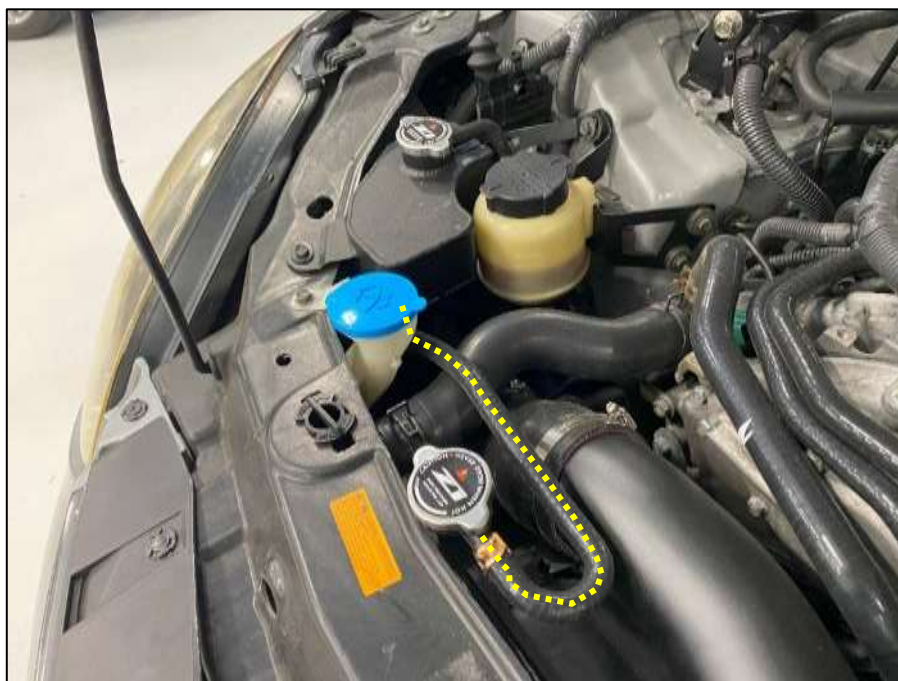

Figure 77
25. Position the Coolant Reservoir Tank onto the holes where the bolts were removed in *Step 17* and rotate the Coolant Reservoir Hose to fit properly and not have any kinks. After it is positioned, remove the Coolant Reservoir Tank and tighten the Banjo Bolt. *Figure 77.*